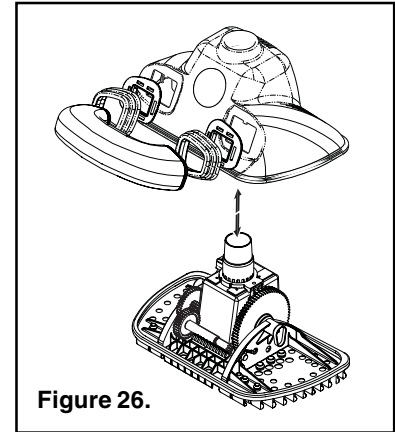

Figure 26.
2. Lift the Outer Housing straight up off of the chassis. Squeeze the tabs on the Bumper/Height Limiter Clips (inside the housing) to remove the Bumper/Height Limiter. The Bumper/Height Limiter, Bumper/Height Limiter Boots, and Bumper/Height Limiter Clips pull apart, (see Figure 26).